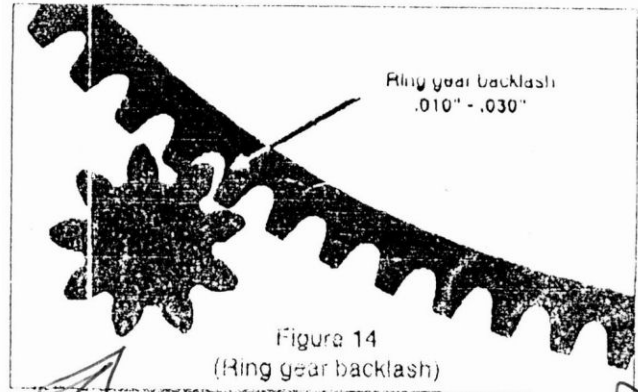

Figure 14
2. The other clearance to be checked is ring gear backlash. Pull the pinion out by hand and put something behind it to hold it in place. Use a small feeler gauge or wire gauge to check the distance between the ring gear and pinion teeth. This should be $.010" - .030"$. (See Figure 14)